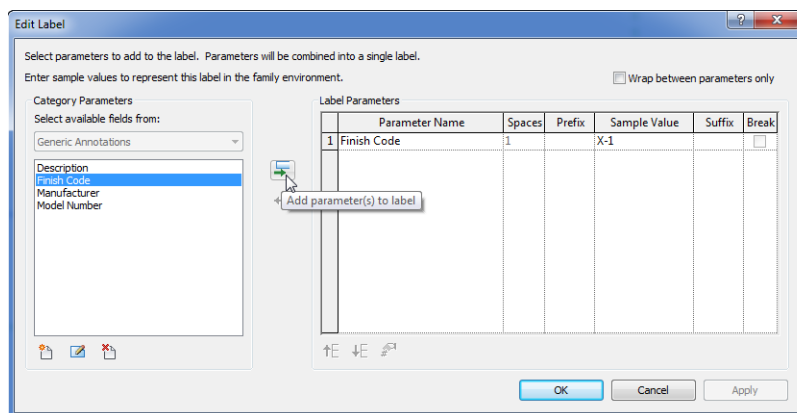

Figure 21 –Add the Code to the Label
8. Select Finish Code and then click the Add Parameter to Label icon in the middle. Change the Sample Value to something like X-1 and then click OK (see Figure 21).